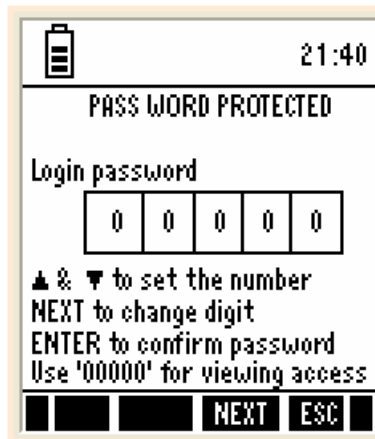

Figure 37 : Login password screen
3. Press **SETP (F1)** to go to Setup mode. Login password screen appears (Figure 37). The meter expects the 5-digit password specified in system setup. (Refer page 45)